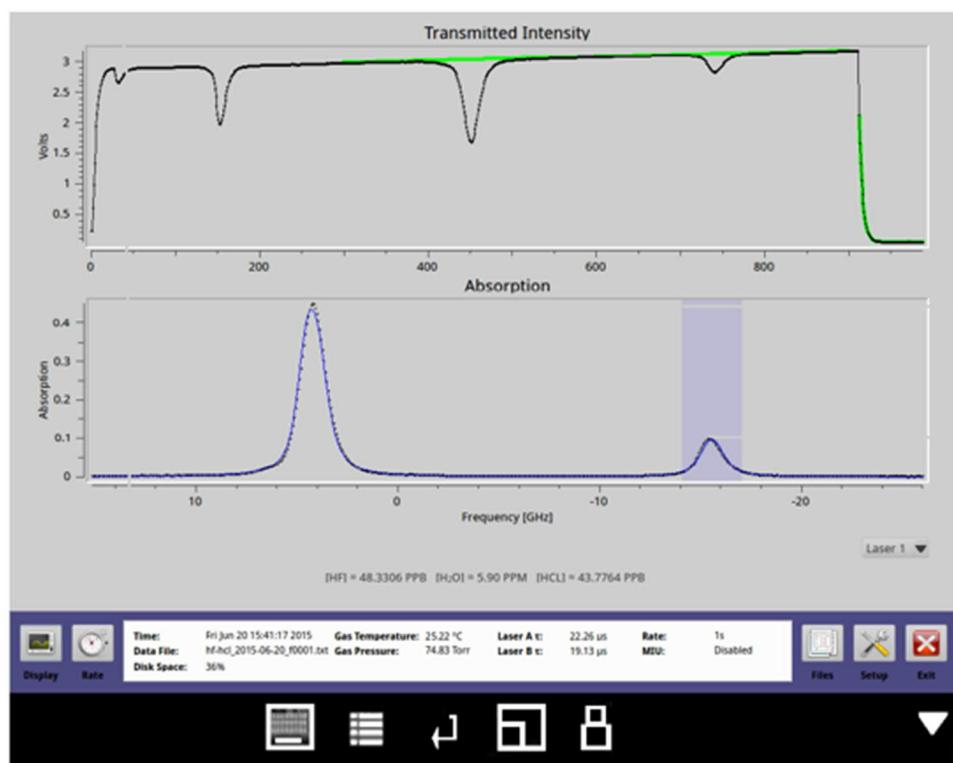

Figure 64: Analyzer Software Interface Display with Size Adjustment for Android Devices
14. Tap the Connect button to connect the Android device to the analyzer. The analyzer software interface screen displays on the device. The screen size is adjustable to fit the screen of the device. (Figure 64)